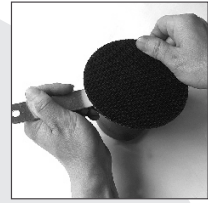

Figure 1
3. Screw tight by hand at clockwise direction the sanding pad into the female thread of the bearing stand (Part #19) while holding the provided wrench on the flats of the stand as shown. (See Figure 1)